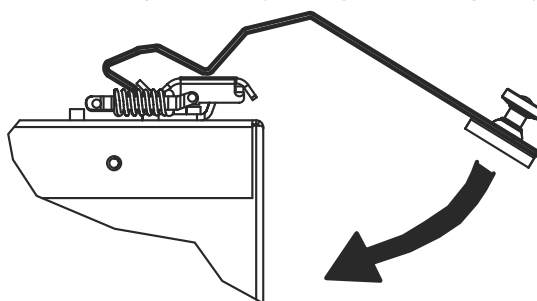

Figure 27 - Latch Opener
3. Hook opener over latch as shown in Figure 27. Swing the bottom of the opener down toward the door. You will not need to pull down.